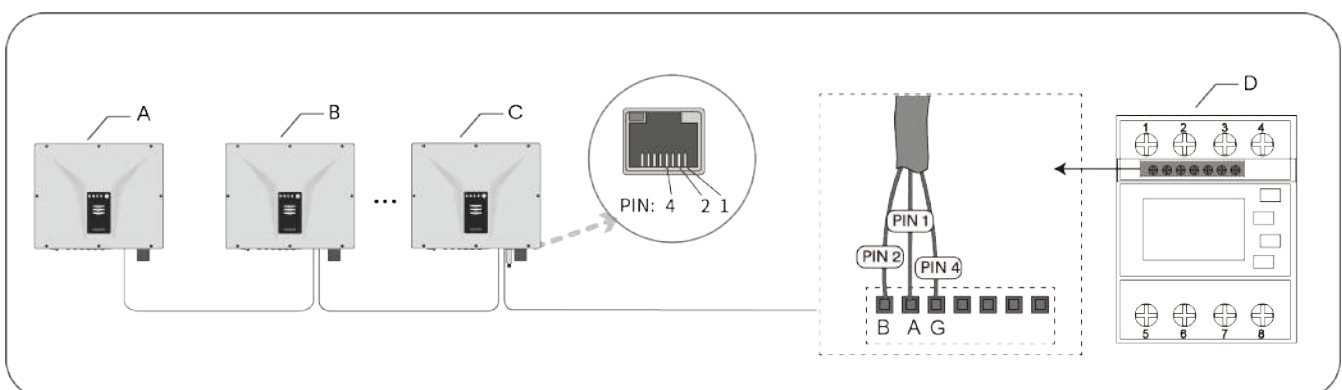
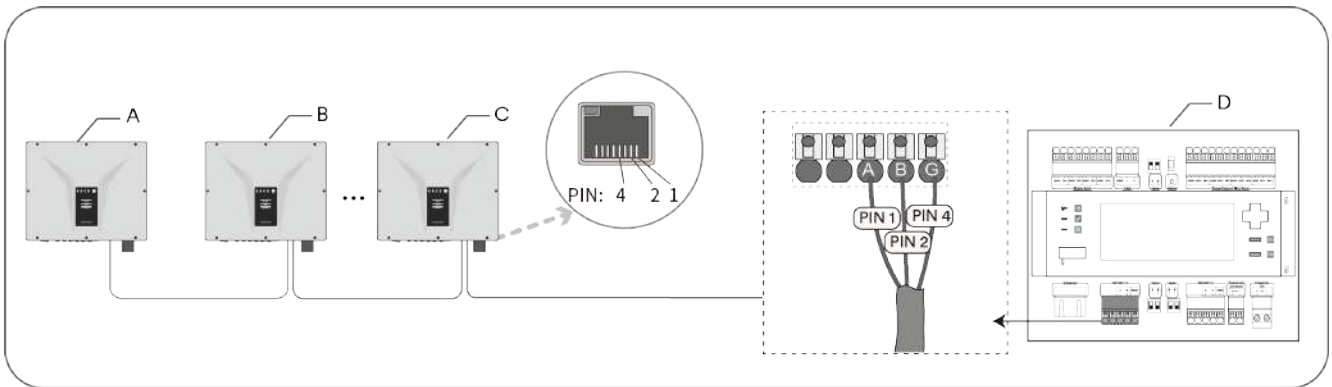

Fig. 39. RS485 Bus system connection with Communication device
Fig. 40. RS485 Bus system connection with Data Logger
2. Strip the insulation of the other side from the network cable and screw copper wire to the corresponding terminal. [  PH0  0.7Nm]. (See Fig. 39 Fig. 40).